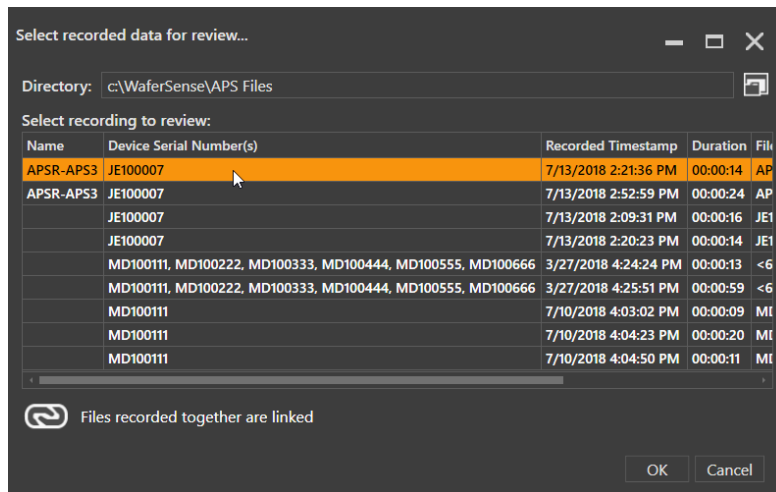

Figure 4.1: Running the Review Feature
2. Navigate to the log file you want selected and select 'OK' as shown in Figure 4.1 to load the log file into ParticleSpectrum.
You can open a log file using the **Select Review File** folder icon, as described in “Running Review,” on page 4.2. (see Figure 4.1). If you don’t see the file you want in the list, navigate to the location you’ve chosen for log files to be saved to. See ““Changing the Log File Directory,” on page 3.16.